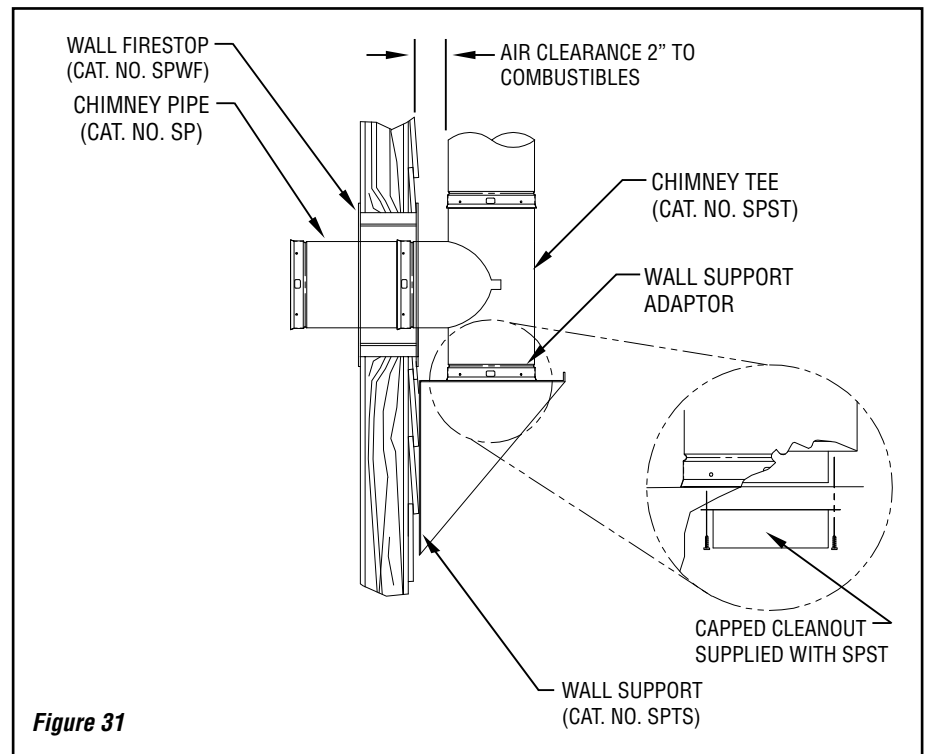

Figure 31
3. A 2-piece wall firestop (SPWF) must be installed in the framed opening from outside. The stainless portion is first installed from the outside of the opening. Push the remaining half through the opening from the inside until the plate is flush with stud. Use four (4) # 10 x 2-1/2" wood screws to attach opening (see **Figure 31**). Seal the outside plate with RTV sealant or similar.